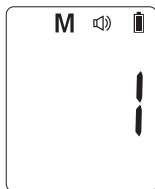

Figure 6
1. With the thermometer off, press the *Setting Button*. The letter M will appear in the upper left corner of the display. (See Figure 6)